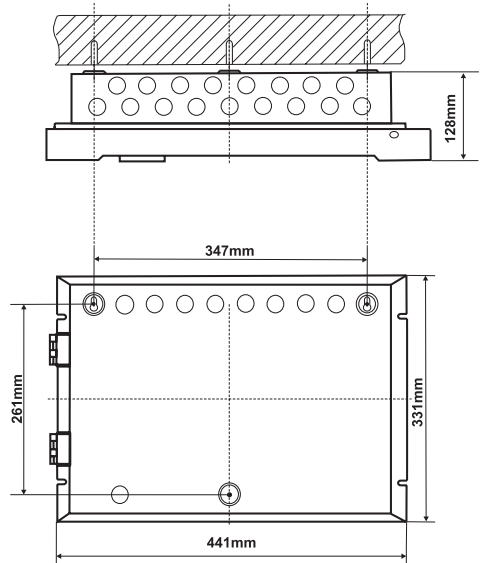

Figure 5.
- Drill  $\text{\O}6\text{-}8\text{mm}$  diameter openings in the wall and fix the box using the provided anchors and screws (Positions 2 and 4, page 31) - Figure 5.